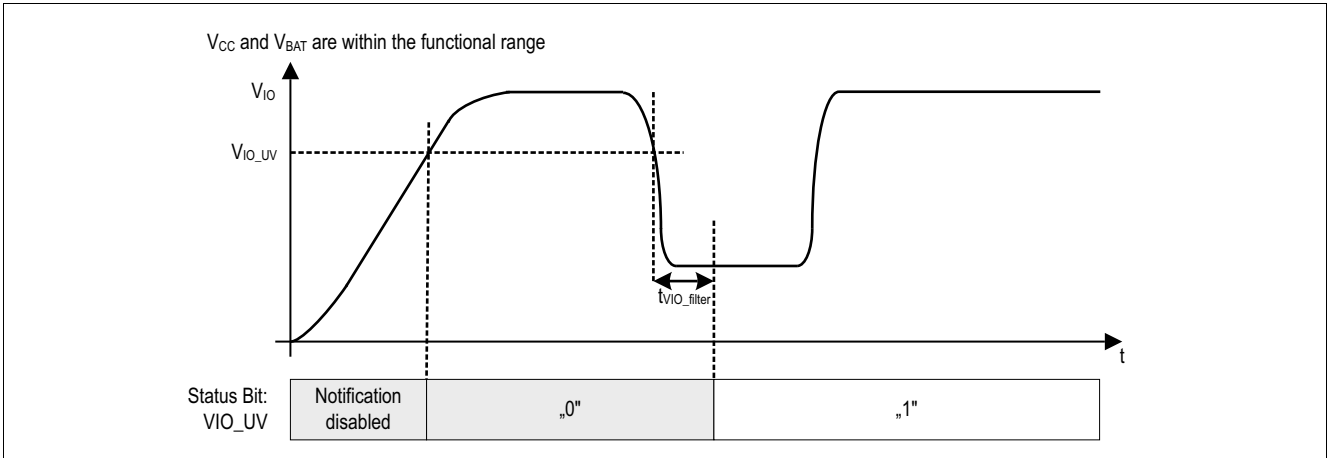

Figure 31 Undervoltage detection VIO during VIO supply stabilization period after Power on Reset
- Set the short-term undervoltage bit **VIO\_STUV** to “1” in the SPI register **TRANS\_UV\_STAT**. After the completion of a Power on Reset, the  $V_{IO}$  supply stabilization period must be completed before an undervoltage notification can be recorded in the **VIO\_STUV** bit. After Power on Reset the undervoltage notification is only be possible once the  $V_{IO}$  supply has exceeded the threshold  $V_{IO\_UV}$ , that is  $V_{IO} > V_{IO\_UV}$ . **Figure 31** shows this scenario.